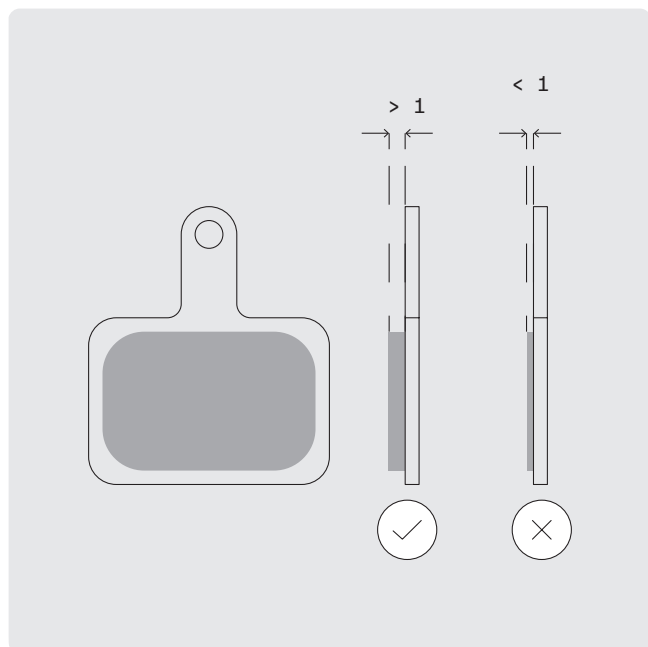

FIG. 40
- Replace the disc brake pads if they are less than 0.03" (1 mm) thick (Fig. 40). The disc brake pads should never be lowered so far that the support plates of the disc brake pads rubs against the brake disc.